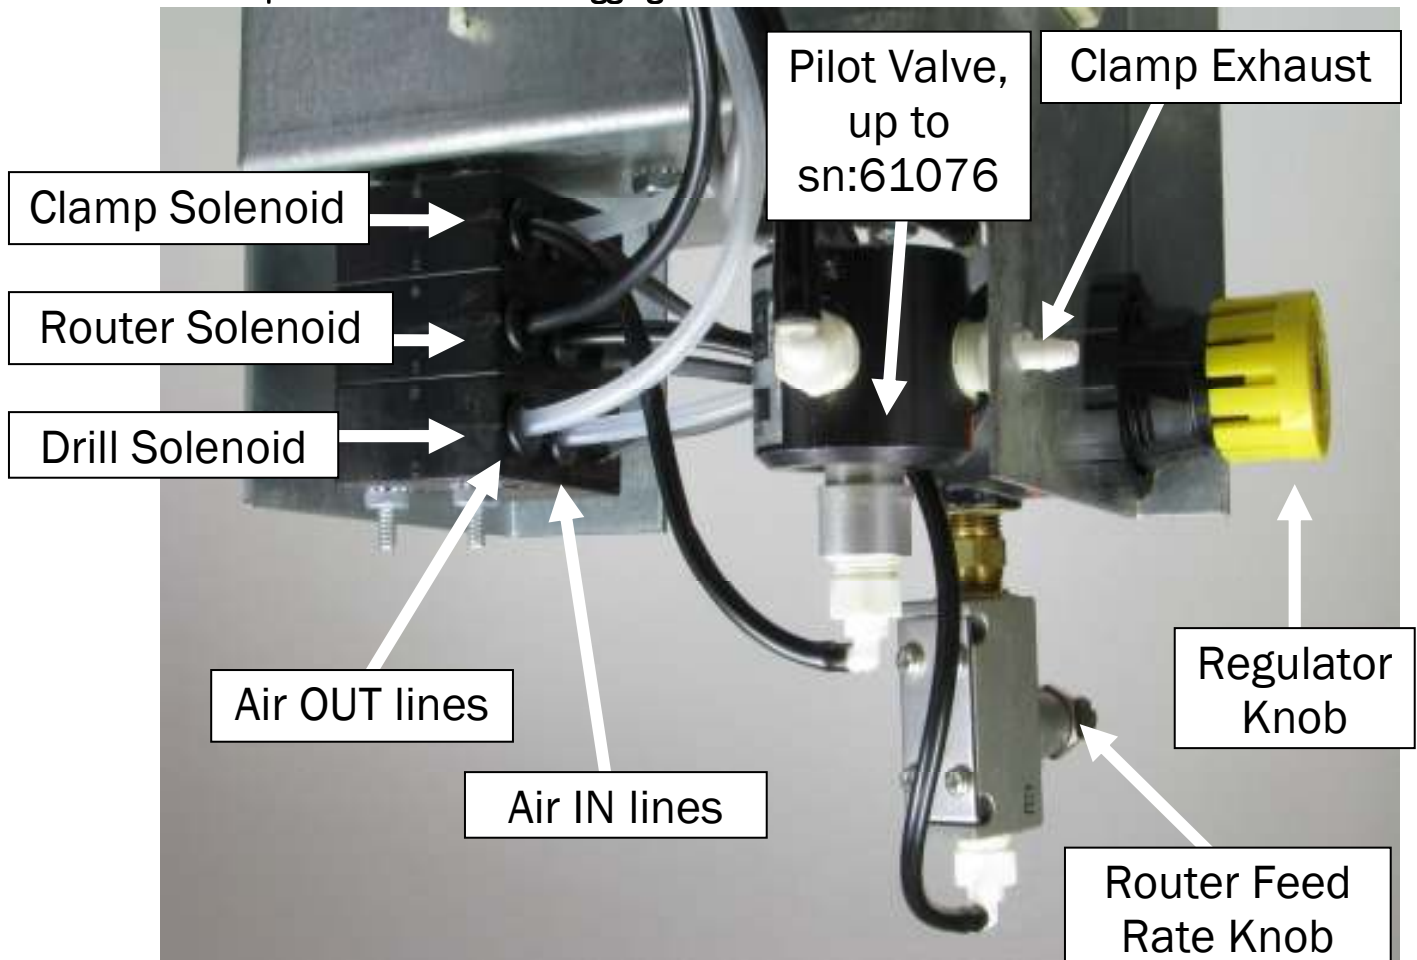

Figure 14
2. Swap the "Air Out" lines between the Router Solenoid and the Drill Solenoid. **See fig. 14.**